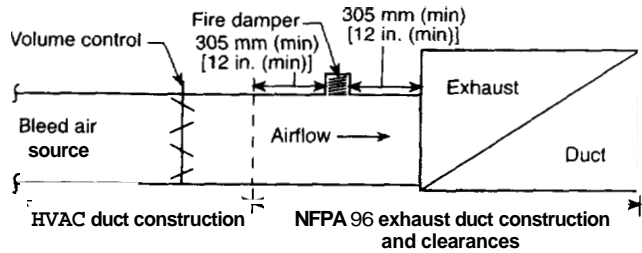

FIGURE A.8.4.1 System for introducing bleed air into a master exhaust duct.
A.8.4.1 See Figure A.8.4.1.
A.10.2.9(4) An approved weekly recorded inspection could consist of a mere log of entries that would display the date and time of the inspection and the initials of the persons conducting the visual inspection. Attaching the log onto a clipboard and mounting it near the valve in question serves as a convenient reminder of the need to conduct the inspection.